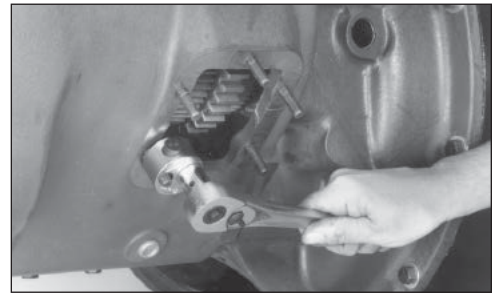

Figure 6
4. Install the proper studs (furnished with PTO) in the PTO aperture pad using a stud driver. Studs may have either interference fit threads (plain) or preapplied locking/sealing compound For installation method (**Fig. 6**).